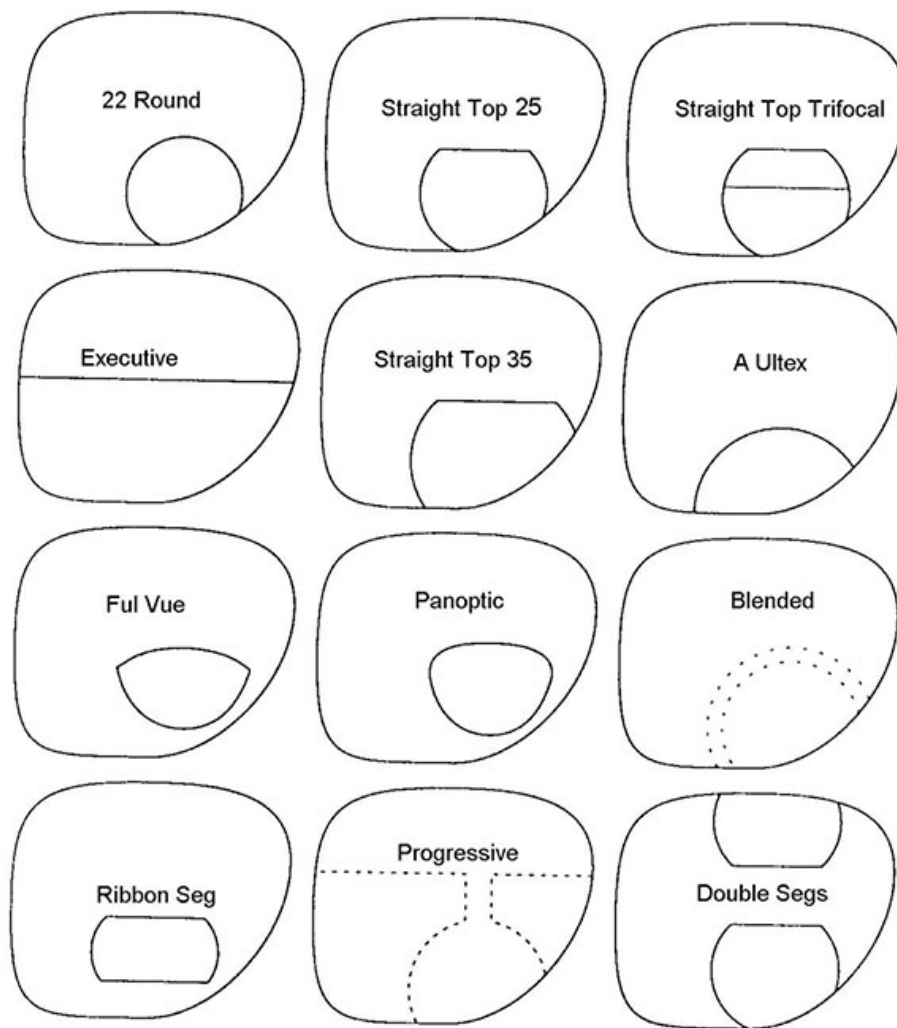

Figure 2-39. Many types of bifocal styles being made commercially.
Figure 2-39 shows different types of bifocals that you may encounter from patients who purchase their glasses through a civilian fabrication lab. Of those shown, only a few styles are available through the military fabrication labs. The most common style in the military is the ST, which is frequently referred to as the D style, since it looks like a D tilted to the right 90°. The sizes of ST (D) style bifocals available are ST-28 (D-28), and ST-35 (D-35). The number merely indicates the width, in millimeters, of the segment at its widest point. Another type of bifocal available through the military lab is the double D type. It's only available to active duty personnel and only for specific occupational needs.